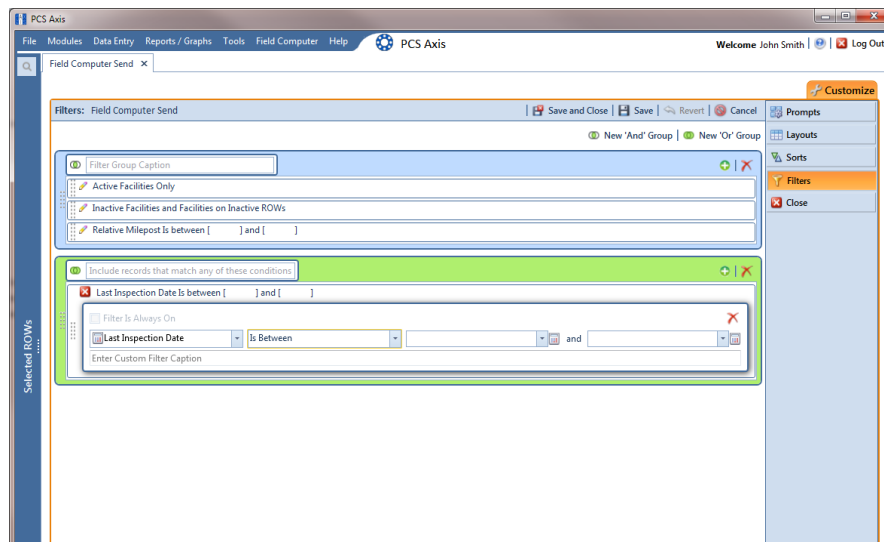

Figure 13-44. New 'Or' Filter Group
- 4 Click the **Customize** tab , then the **Filters** button  to open the *Filters* page (Figure 13-44, page 643).
- 5 Click  **New 'Or' Group** to open a filter properties group box (Figure 13-44).
- 8 If the OR filter group includes a date filter, such as *Facility Delinquent Date Is Between* shown in Figure 13-44, page 643, set a date range using a calendar or dynamic dates in the following manner: